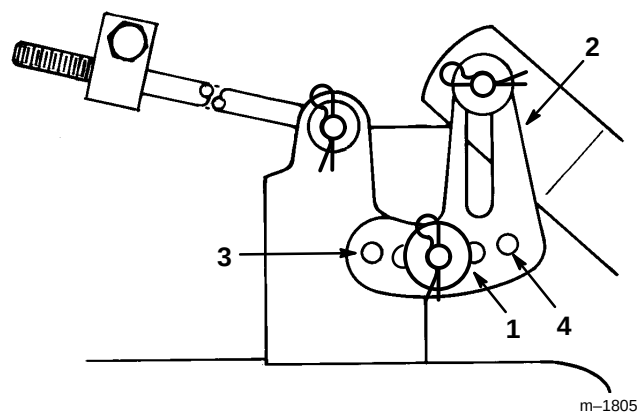

**Figure 46**
4. Carefully rotate blade(s) side to side (Fig. 46). Measure between the outside cutting edges and the flat surface (Fig. 46). If both measurements are not within  $\frac{3}{16}$ ” (5 mm), an adjustment is required; refer to steps 5 and 6.